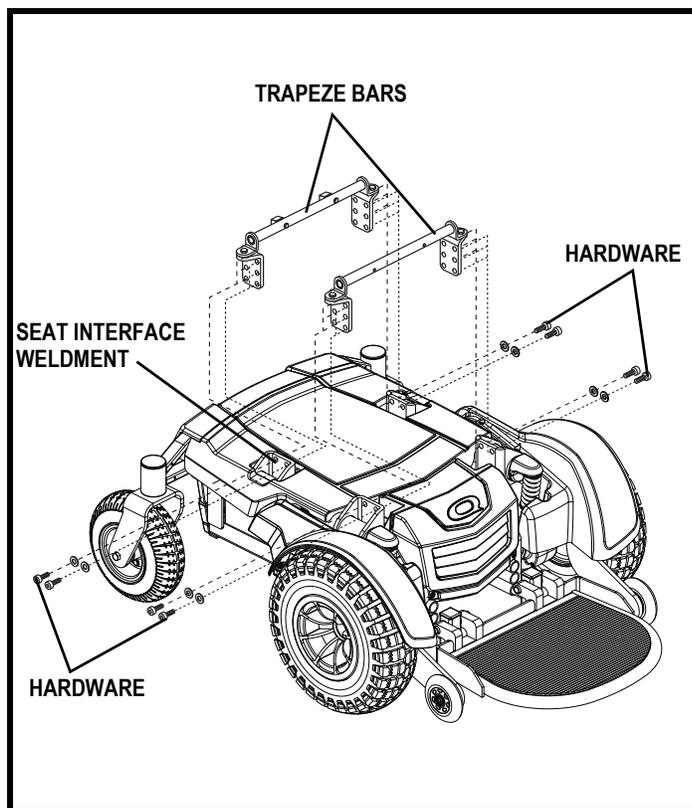

Figure 11. Seat Height/Angle Adjustment
7. Remove the hardware that attaches the trapeze bars to the seat interface weldments. See figure 11.